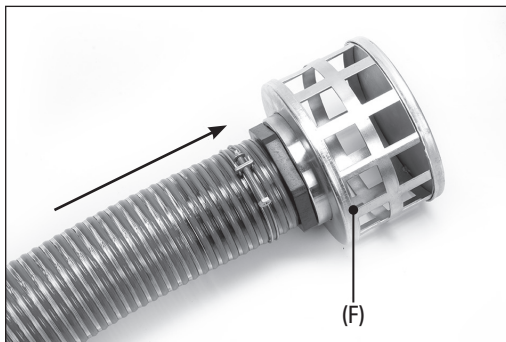

Fig. 4
6. Screw the filter barb (E) into the strain filter (F) (Fig. 4).